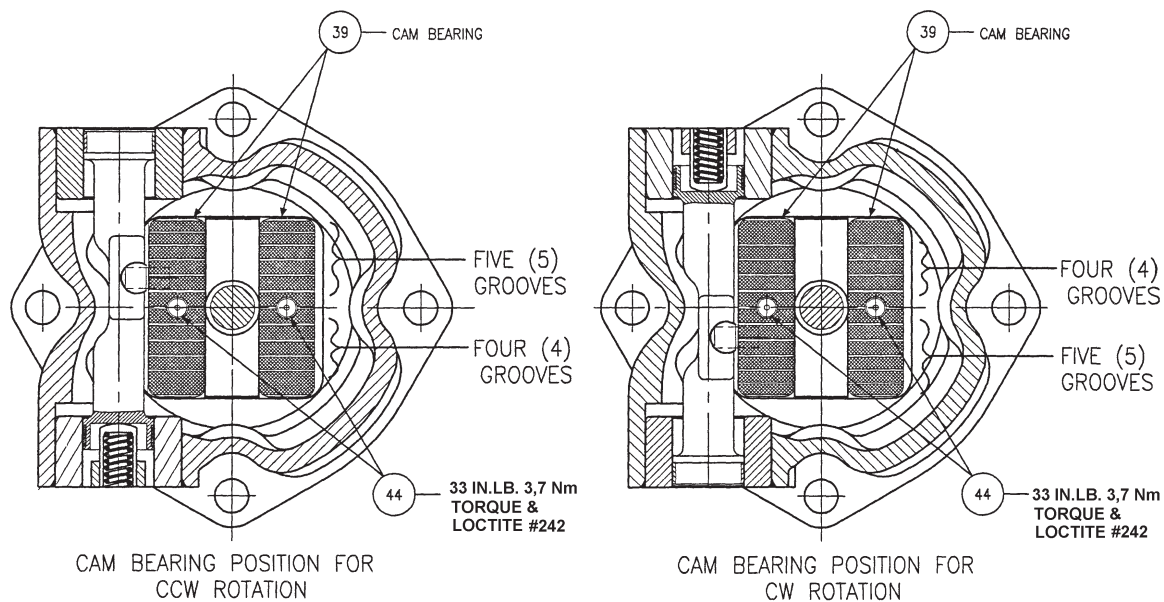

FIGURE 11
See figure 10. Assemble two cam bearings (39) to rocker cradle (6) with two screws (44). Apply Loctite to screws and torque to 3,8 Nm. The cam bearings have lubricating grooves where the rocker cam makes contact. The cam bearings must be oriented on the rocker cradle to correspond to the side-of-center that the rocker cam will be stroking for CW or CCW shaft rotation. See Figure 11.
- The control piston must be reversed so that it is oriented correctly with the control caps. See figure 11.
- The rocker cam bearings must be removed from the rocker cradle, rotated 180° from the original position and reinstalled on the rocker cradle. See Figure 11.